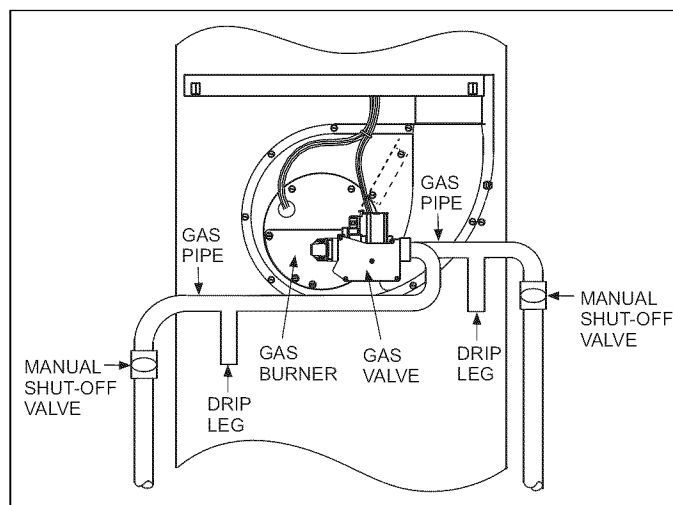

FIGURE 5: Gas Piping
*Should overheating occur, or the gas valve fail to shut off, turn the external manual gas valve in the gas supply line to the furnace to the "off" position and let the furnace cool off before shutting off the electrical power supply. Refer to Figure 5.*